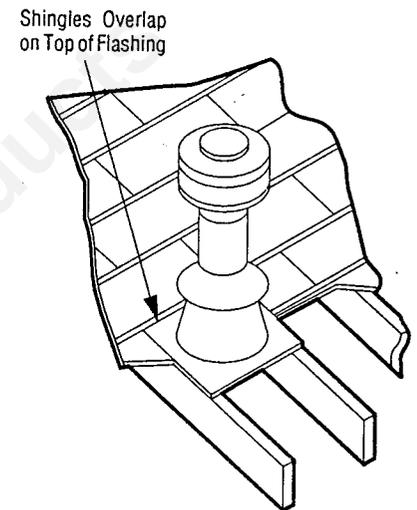

Figure 25
E. Slip the flashing Dura Vent Part No. 943 (0/12 to 6/12 Roof Pitch) or Dura Vent Part No. 943S (7/12 to 12/12 Roof Pitch) over the Pipe Section(s) protruding through the roof. Secure the base of the Flashing to the roof with roofing nails. Insure the roofing material overlaps the top edge of the Flashing as shown in *Figure 25*. Verify that you have at least the minimum clearance to combustibles at the roofline.